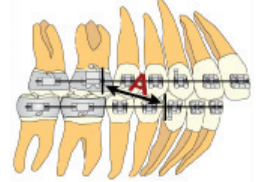

Figure 3.
- Measure from the distal edge of the lower cuspid bracket to the mesial end of the upper 1st molar tube (Figure 3).
- See the chart below for measurement ranges (A) and part numbers.